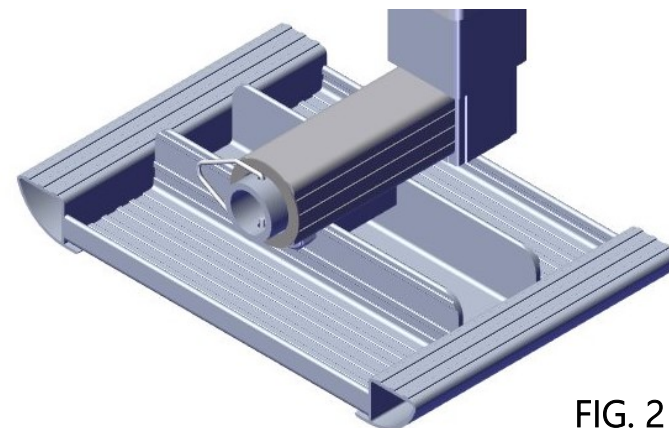

FIG. 2
- SLIDE ASSEMBLY ON LEG SPINDLE (FIG. 2)
- SLIP WASHER OVER SPINDLE AND INSERT CLIP INTO HOLES IN END OF SPINDLE (FIG. 2)